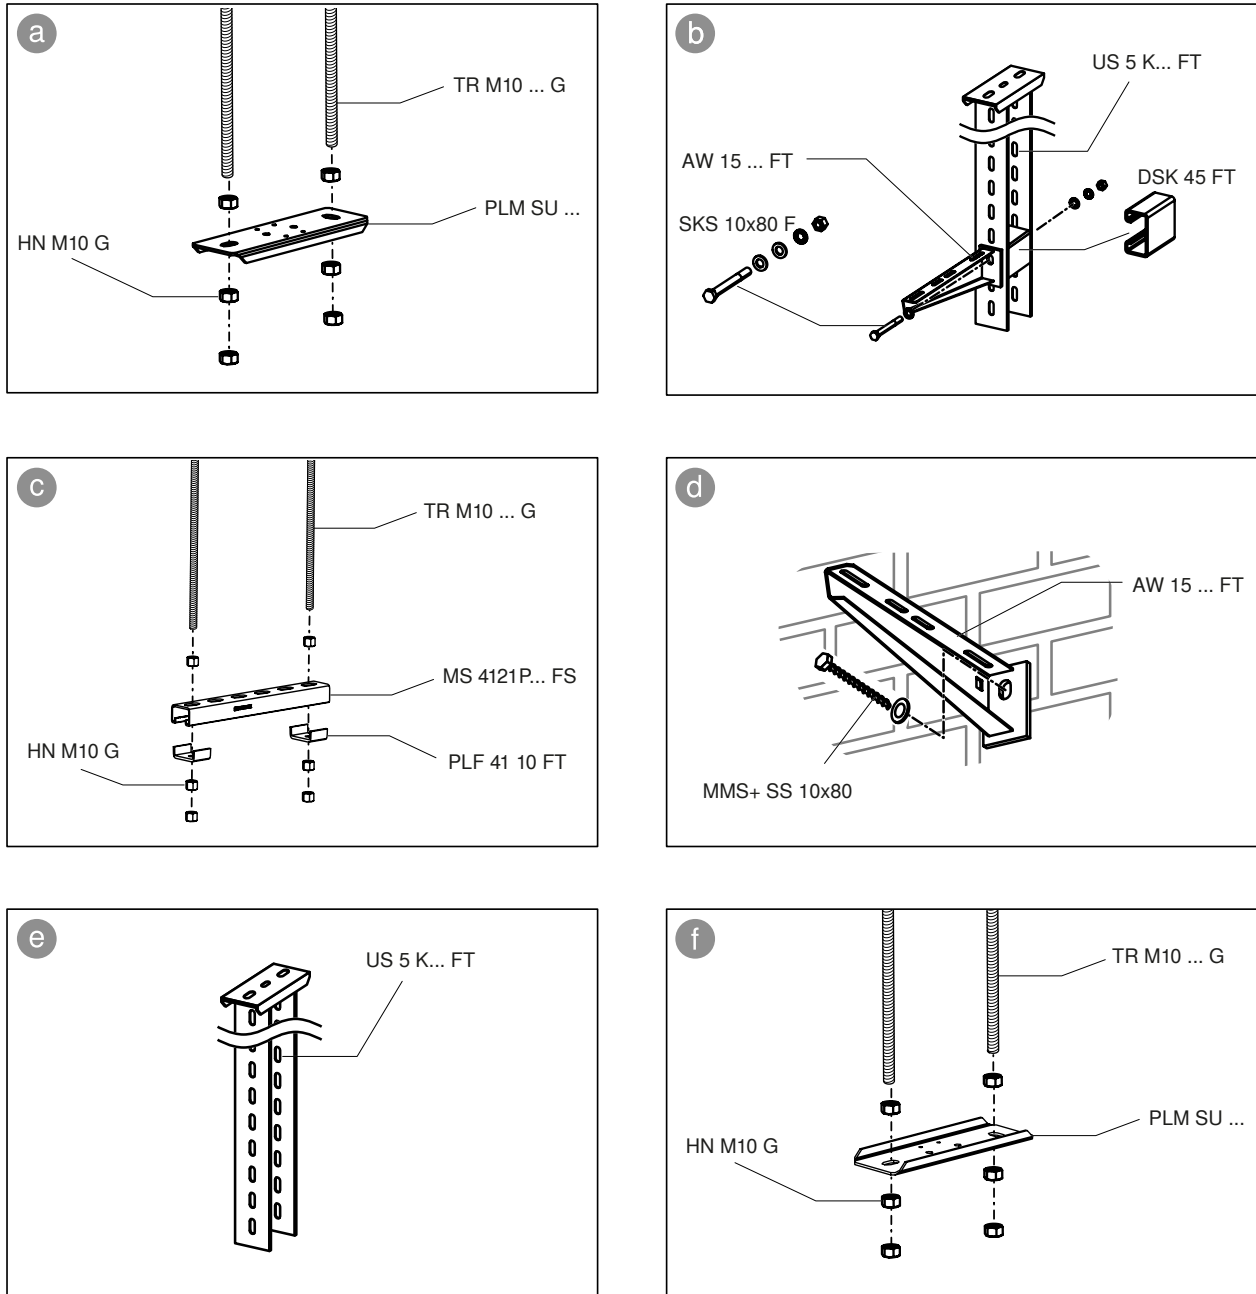

Fig. 9: Mounting support systems
The maximum support spacing for suspended mounting is 1 m. When mounting with mounting rail **c** to Fig. 9, cantilever **b**, **d** or U support **e**, the distance to the joint must be at least 100 mm so that the PLM SI... joint connector can be mounted without any problems.
Note! *Alternatively, when mounting with support profiles **a** to Fig. 9 and **f**, the suspended support can be mounted directly beneath the joint, e.g. when mounting fittings (see also “8.2.1 Mounting fittings on support system **a** / **f**” on page 27). For this purpose, use the connector bolt PLM SF 4x8 item no. 3498092 to continue to ensure problem-free mounting of the joint connector.*
3. Mount the support system in accordance with Fig. 9.